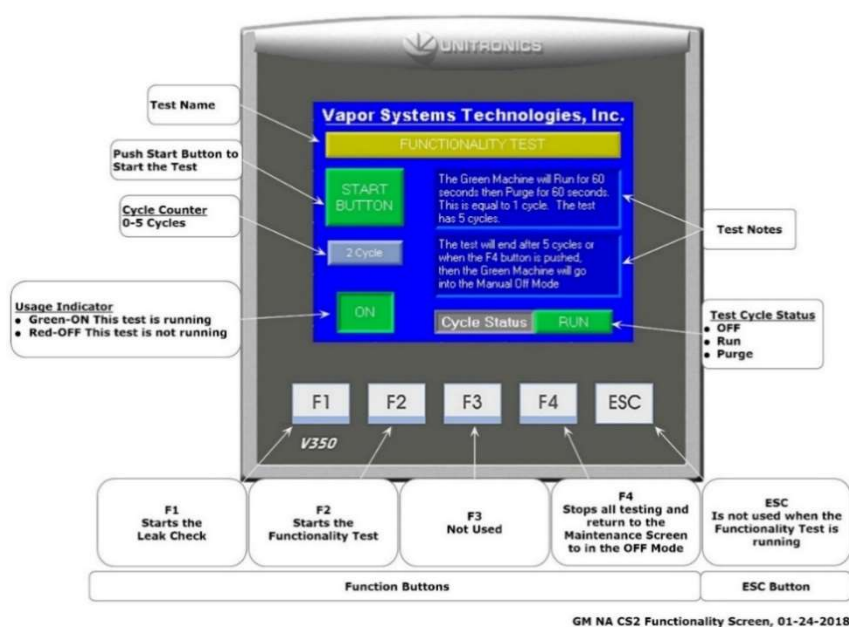

Figure 7-5: Functionality Test Screen
1. Push the F2 button to access the Functionality Test Screen. **See Figure 7-5.**